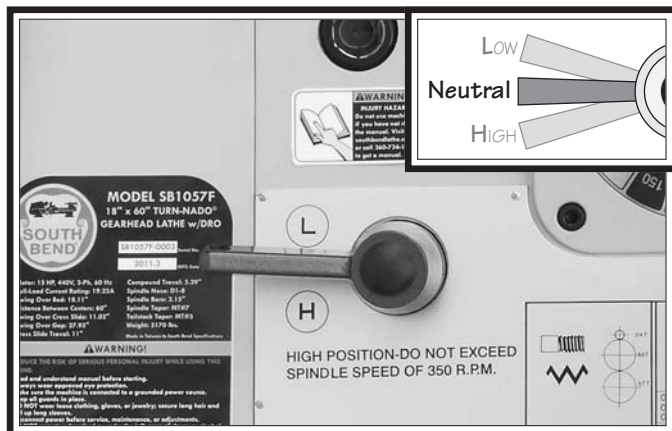

Figure 27. Gearbox range lever in neutral.
7. Move the gearbox range lever on the headstock to the neutral (middle) position to disable power feed, as shown in **Figure 27**.
4. Use the foot brake to stop spindle rotation, then run the lathe at 150 RPM for ten minutes with the gearbox range lever (**Figure 27**) on the headstock in the **L** (low) position, and then run the lathe for another ten minutes with the lever in the **H** (high) position.